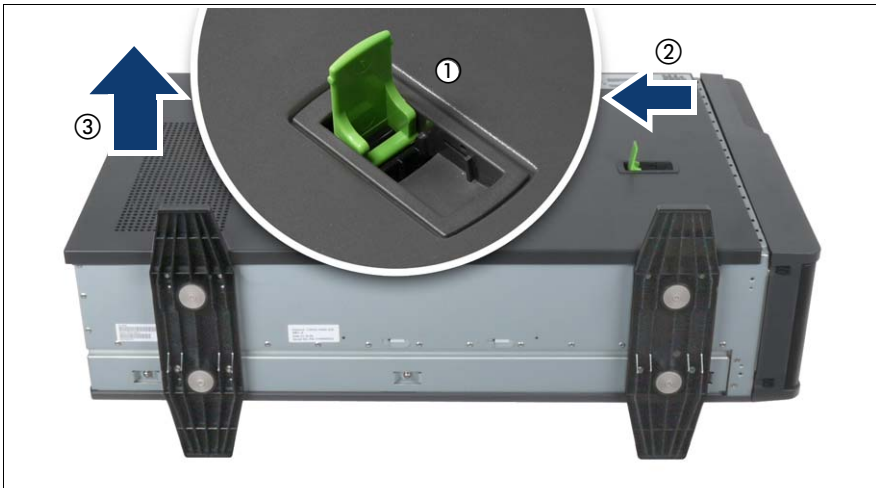

Figure 2: Removing the side cover
- ▶ Loosen the two knurled screws (1) and pull the server as far as possible out of the rack (2).
- ▶ Pull the locking lever as far as it will go (see also figure 2 on page 28). This pushes the top cover backward.
- ▶ Pull the locking bar forward on both sides (1).
- ▶ Lift the server out of the rails (2) and place it on a table, for example.